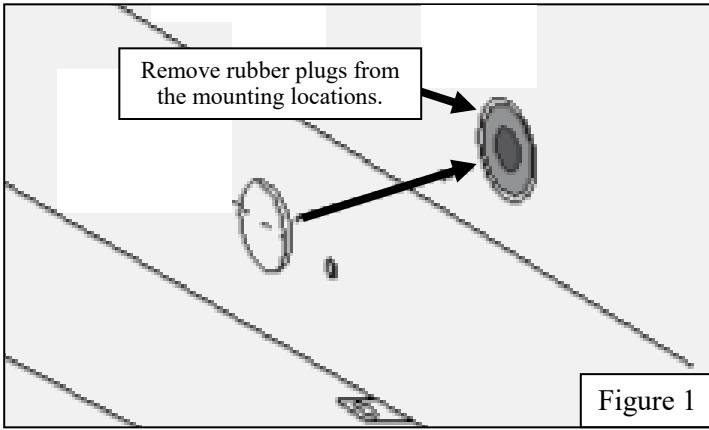

Figure 1
- Starting on the either side of the vehicle, remove the OEM rubber plugs located on the rocker panel at each mounting location. See **Figure 1** for reference.